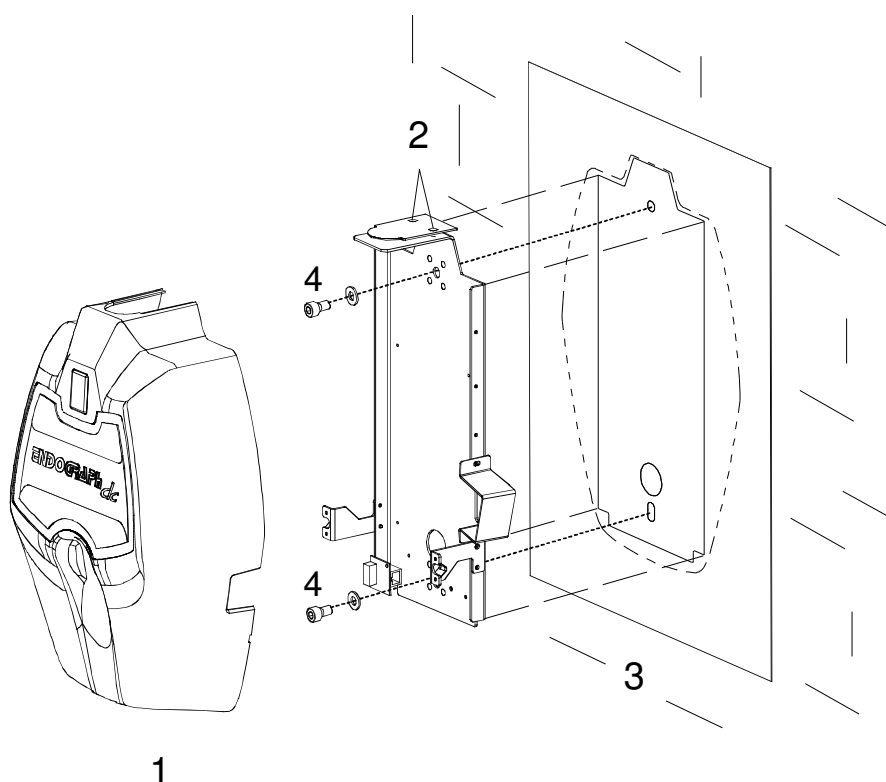
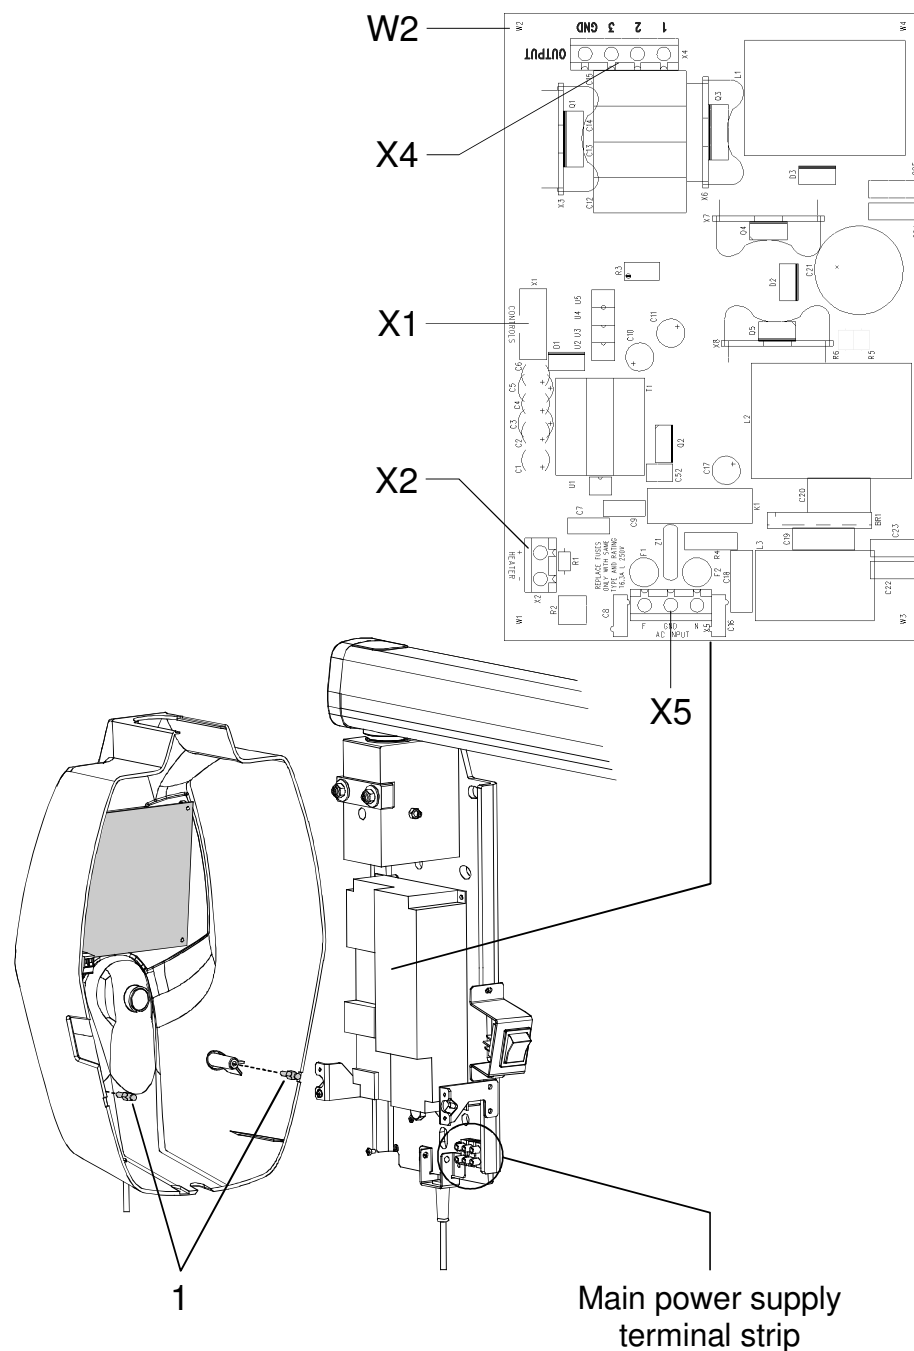
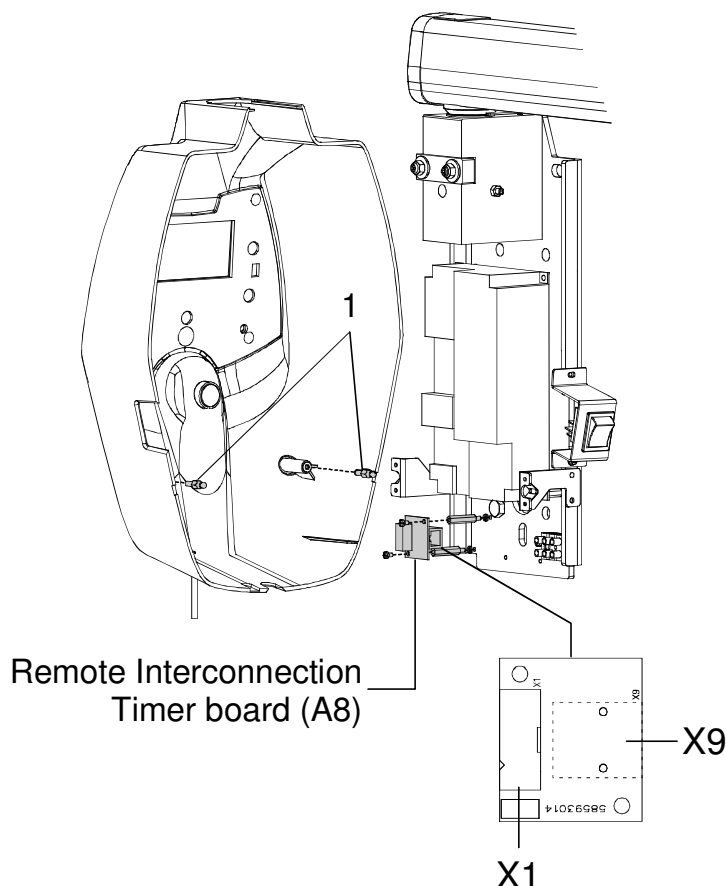

Figure 6-18
Figure 6-19
Figure 6-20
- 1** To be sure that the equipment is in the correct position we recommend you put the provided template code 39599101 (**3** - Figure 6-18) in the requested position, in this way identifying the requested wall-mounting position. Considering the overall dimensions of the equipment, put the top part of the template at 1450 mm from the floor.
- 3** Remove the plastic timer cover (**1** - Figure 6-18) by loosening the two sealing screws (**2** - Figure 6-18) placed on the top part.
- 4** Fix the timer to the wall using the provided screws (**4** - Figure 6-18) verifying its perpendicularity with the wall accordingly to both axis.
4. Assemble the two pins lock (1 - Figure 6-19) on the timer cover; these pins (code 2100511300) are included in the mounting hardware packaging.
3. Assemble the Remote Interconnection Timer board (A8), included in the Remote Timer box, on the timer as shown in Figure 6-20.
4. Connect the flat cable, supplied with the Remote Timer box, between Driver board – connector X1 (Figure 6-19) – and A8 board – connector X1 (Figure 6-20).
5. Connect the RJ 45 cable to the A8 board – connector X9 (Figure 6-20).
6. Assemble the two pins lock (**1** - Figure 6-20) on the Remote Timer cover (**1** - Figure 6-18); these pins (code 2100511300) are included in the mounting hardware packaging.